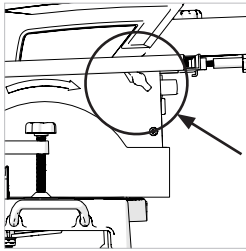

Fig. 23a
- Ensure that the table is at its lowest setting (see Fig. 23a & 23b)
1. Adjusting the Table Height (Fig. 23a & 23b)